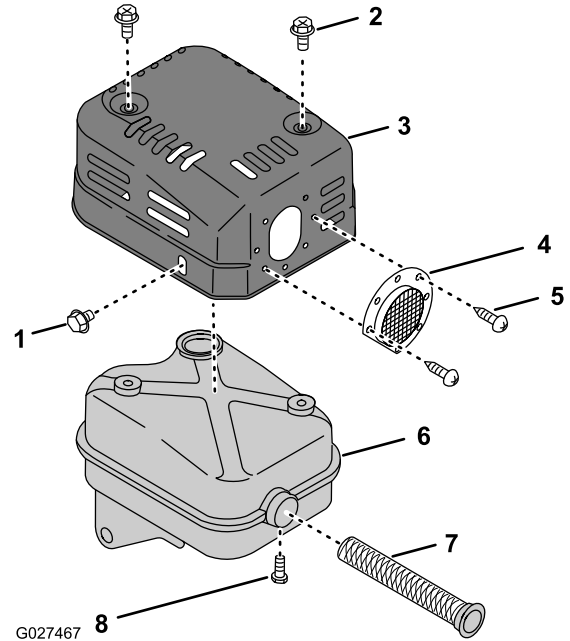

Figure 70
3. Remove the 2 self-tapping screws that secure the tail screen to the muffler cover and remove the screen (Figure 70).
4. Remove the 2 bolts and 1 flanged-head bolt that secures the muffer cover to the muffer (Figure 70).
5. Remove the self-tapping screw that secures the spark arrester to the muffer and remove the spark arrester (Figure 70).